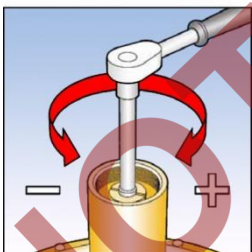

Fig. 4
16. For L.P. 65mm and 80mm unit insert ½" square socket extension piece into square hole, or flat blade screwdriver into slot in spring adjuster. See Fig. 4.